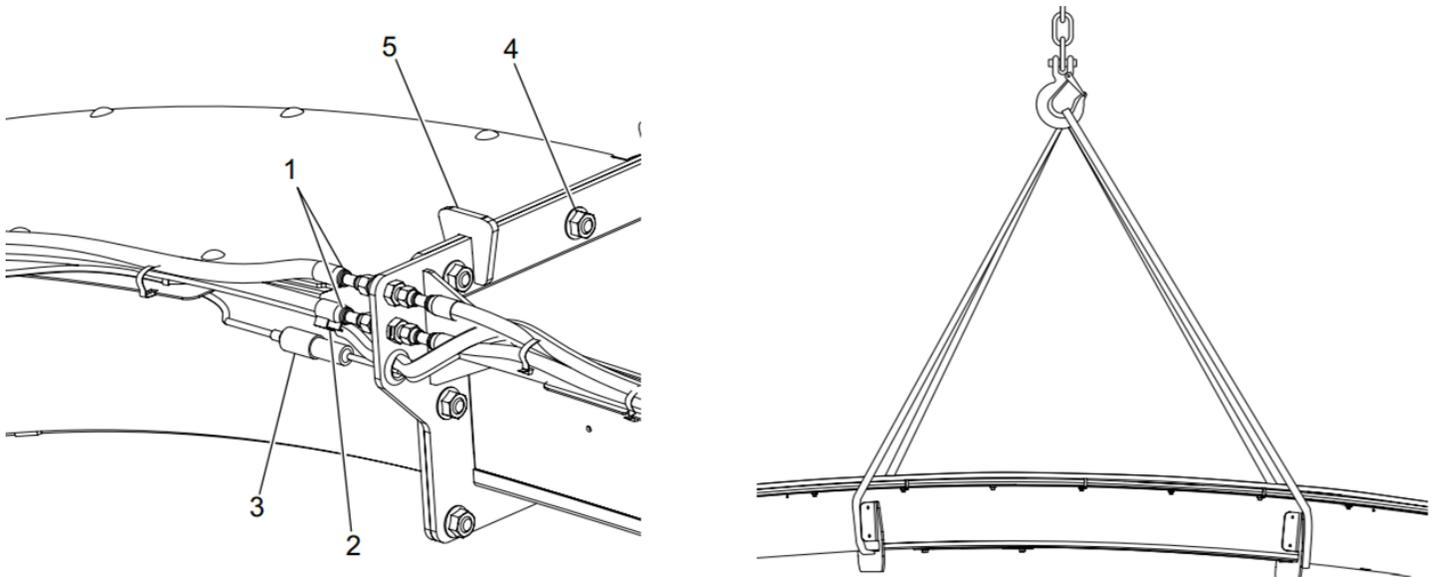

Figure 47 : Stinger spout conversion
1. Fasten the lifting straps on each side of the reinforcement brackets of the intermediate section to lift and remove the middle section Figure 47 : Stinger spout conversion.